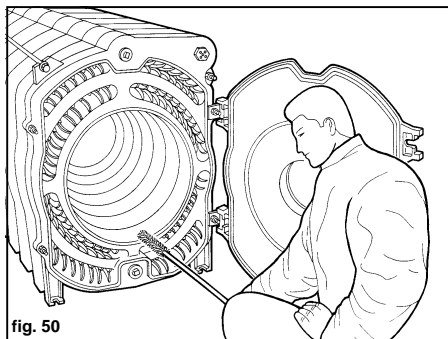

fig. 50
- 4 (fig. 50) Clean the inside of the boiler and the whole length of the flue gas outlet duct using a steel brush or compressed air.